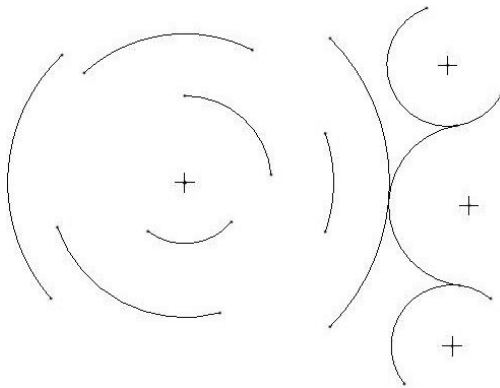

Figure 3-35 Arcs
Step 31: Use  to create an arc, then use  to create six concentric arcs as shown on the left in Figure 3-35.
Step 32: Use  to create the upper and lower right most arcs in Figure 3-35.
Step 33: Use  to draw the arc that is tangent to three different arcs as shown in Figure 3-35.